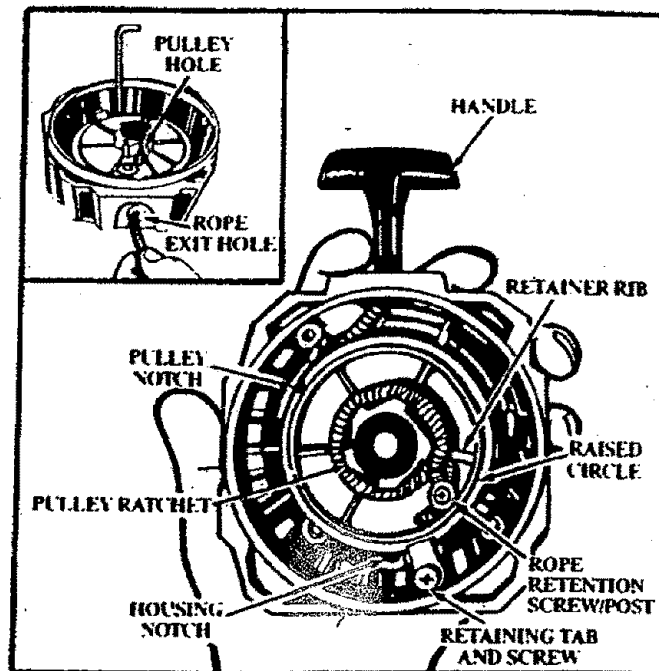

Figure 29
9. Hold Pulley Housing and hand turn the Pulley clockwise as far as it will go. Then, turn the Pulley counterclockwise until the Pulley Notch is aligned with the Housing Notch next to the Retaining Tab and Screw. Figure 29. Next, turn the Pulley one complete turn counterclockwise until the notches are aligned again.
10. Insert the small hex wrench into the hole formed by the Notches to hold the Pulley in position. Figure 29 (Inset).
15. Insert the other end of the Rope through the Rope Exit Hole, into the inside of the Housing, into the Pulley, and up through the Pulley Hole. See Inset, Figure 29.
16. Wrap Rope counterclockwise around the Pulley Ratchet and tuck loose end under Rope where it comes out of the Pulley Hole. Leave a 1-inch tail laying flat on top of the Pulley between the Retainer Rib and the Rope Retention Screw/Post. Figure 29.